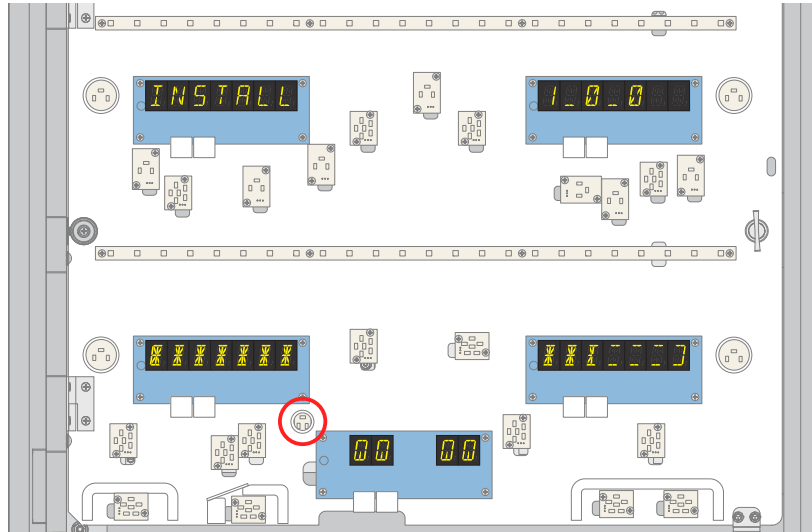
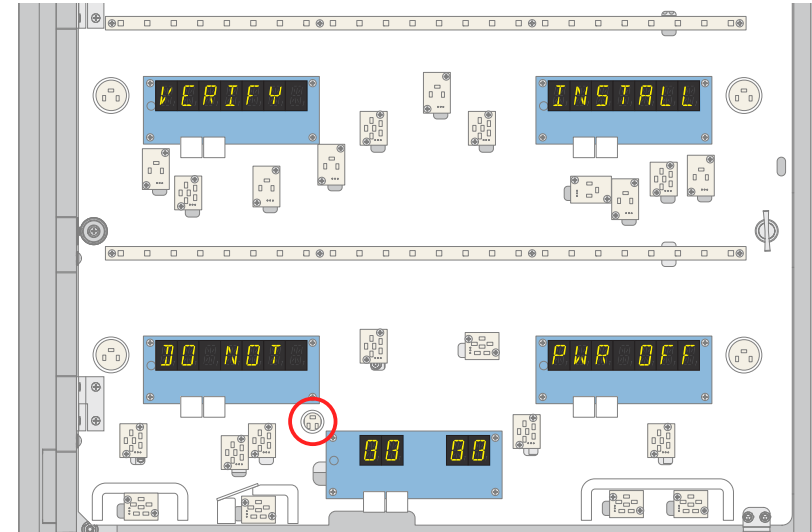

Figure 4-13. Displays - Installation in progress.
Figure 4-14. Displays - Install verification process.
12) When the countdown timer reaches 00, the displays change (figure 4-13) and software installation begins. The Player 2 display shows the new software version; the Credit and Ball in Play displays show mini "clock faces", with "hands" repeatedly going around in circles; the backbox **Timer** flasher (red circle, below) slowly blinks ON and OFF; the Player 3 and 4 displays serve as a "progress bar", showing how the install is proceeding. When complete, the displays will change again (figure 4-14) to indicate that install verification is in progress; the **Timer** flasher will continue to blink - **DO NOT POWER THE GAME OFF YET!**